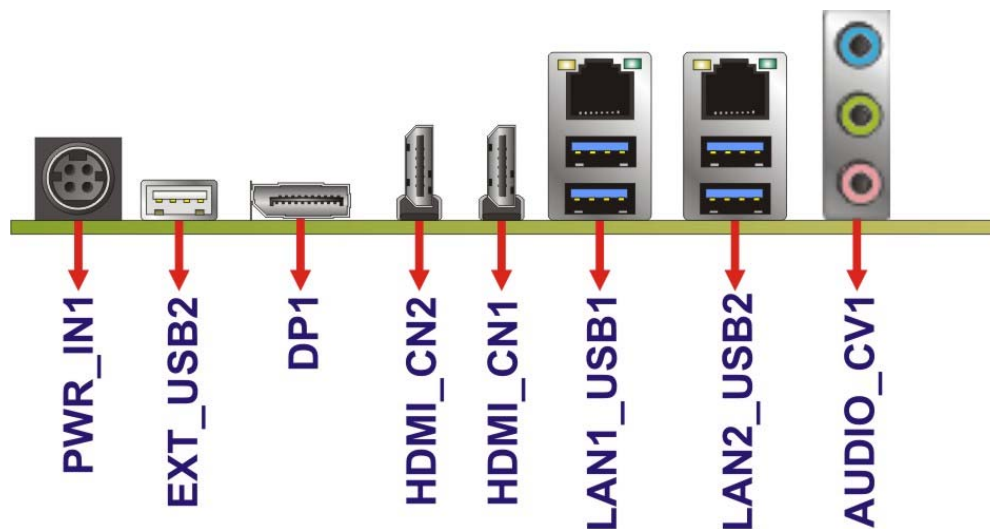

Figure 3-26: External Peripheral Interface Connector
Figure 3-26 shows the gKINO-DMF external peripheral interface connector (EPIC) panel.
CN Location: See **Figure 3-26**
- CN Location:** See **Figure 3-26**
CN Location: See Figure 3-26